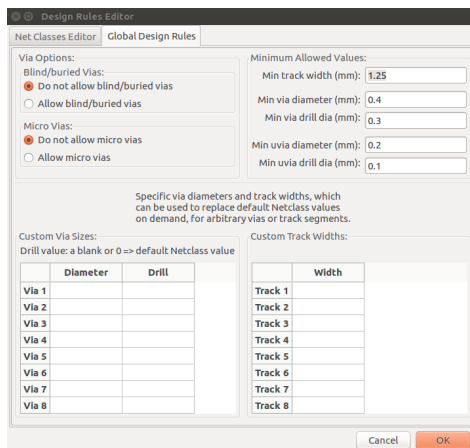

Figure 14.17: Design Rules Editor Window: Global Design Rules
3. Click on **Global Design Rules**, under **Minimum Allowed Values**, locate **Min track width**, erase the default value and enter 1.25 in the data entry field on the right side of it as shown in Fig. 14.17. This will ensure that all tracks placed are of width 1.25mm and that when we perform **Design Rules Check**, the checks